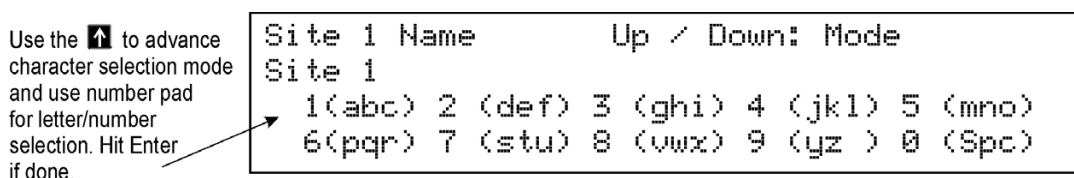

Figure 6-2 Edit Site Name
5. Press 2 to Edit Site Name. Choose Site to edit. See Figure 6-2.